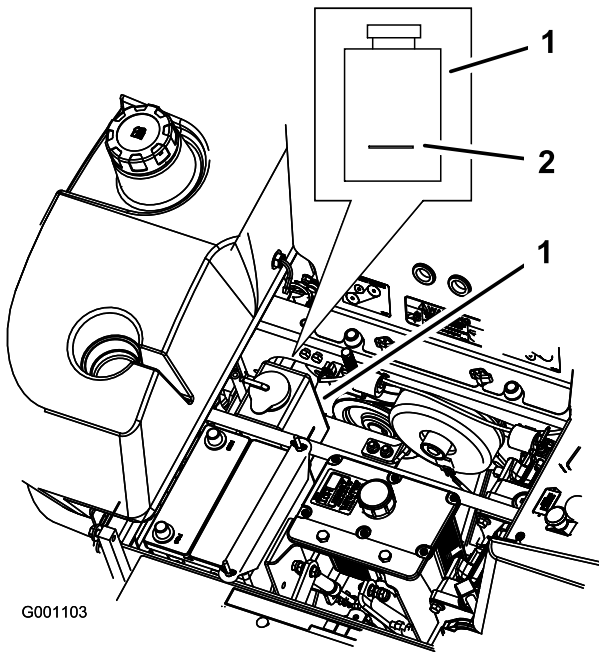

Figure 79
4. With the engine cool, check the overflow bottle level. The fluid needs to be up to the bump on the outside of the overflow bottle (Figure 79).
5. If the coolant level is low, add a 50/50 mix of extended life antifreeze/Dex-Cool® and water to the overflow bottle (Figure 79).
6. Add the 50/50 coolant mix to the overflow bottle and fill it to the indicator line on the bottle (Figure 79).